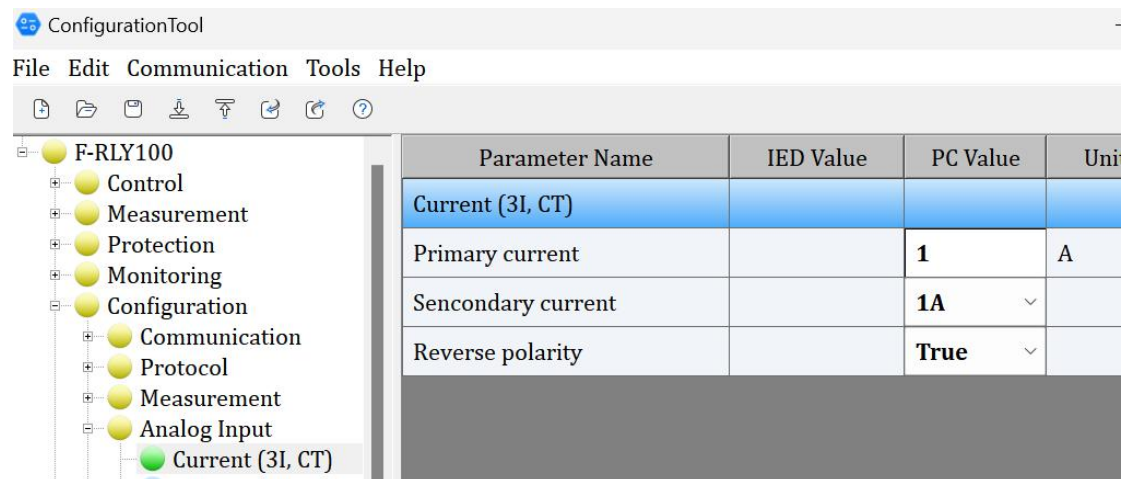

Figure 38
- 4) Click the “Analog input” and parameter settings window will popup where it is possible to edit. (Figure 38)